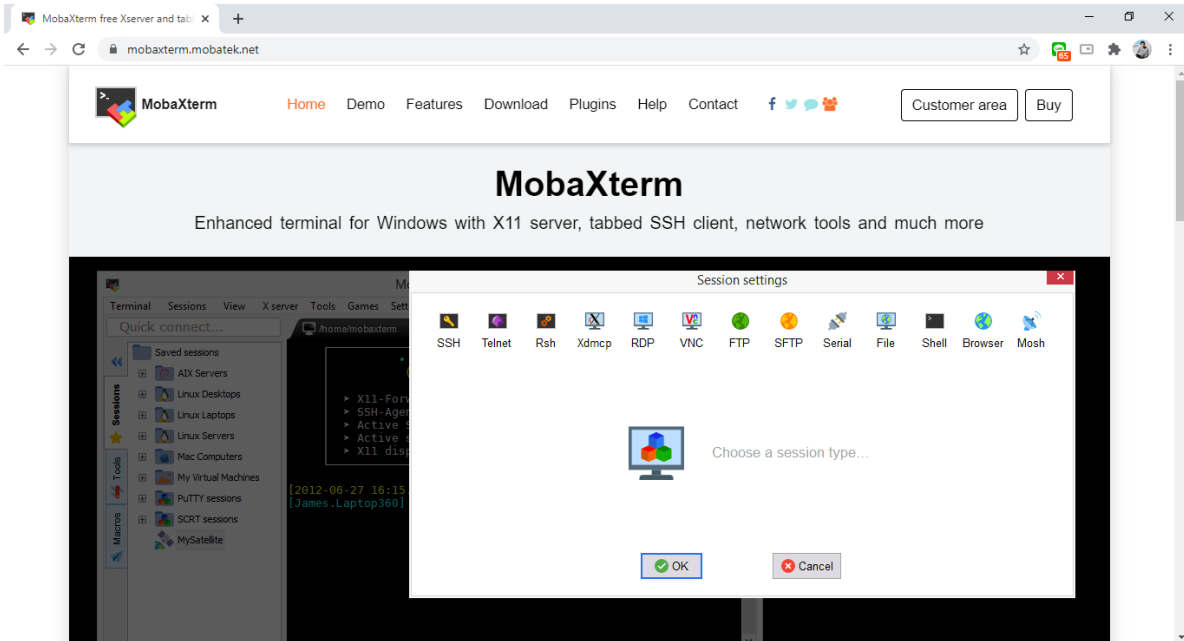

Figure 2-2 MobaXterm Website
1. To download MobaXterm, please go to this url: <https://mobaxterm.mobatek.net/> then, click the tab "Download" as shown in Figure 2-2.